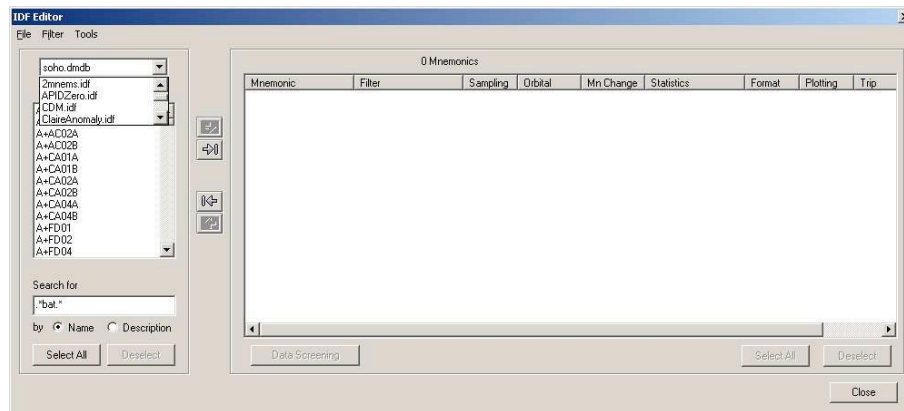

Figure 66: Using Existing IDF to Select Mnemonics
- Use the pull-down menu on the left of the IDF editor screen (see *Figure 66*) to select an existing IDF.